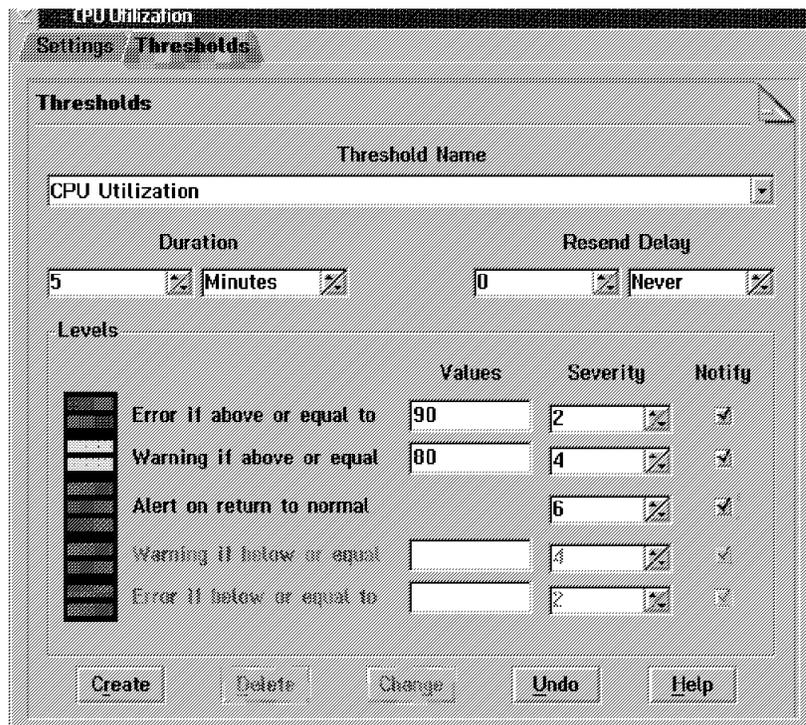

Figure 100. Defining CPU Thresholds
5. Give a name to the threshold you are about to define. In our example (see Figure 100), we named the threshold *CPU Utilization*.
6. Fill in the Values (see Figure 100).
7. Select **Create** (see Figure 100).
8. The definitions shown in Figure 100 will generate the following alerts: